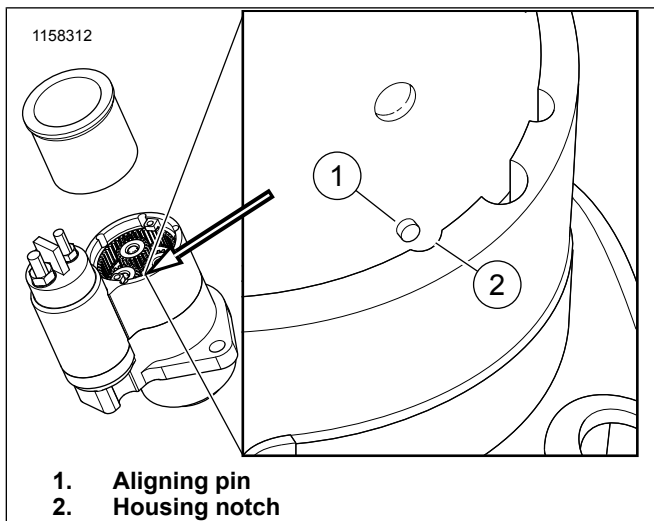

Figure 5. Magnet Verifying Alignment
12. Figure 5 Install magnet into the solenoid/gear housing. Verify aligning pin (1) and housing notch (2) align.